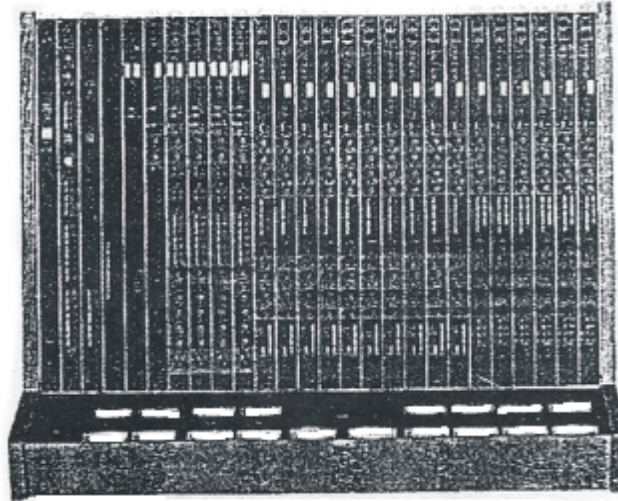

Figure K-10. Audio Console/Mixer
b. The audio-control console is the main center point for all audio signals in a television program. All sound sources, including microphones, tapes, records, compact discs, sound tracks from videotape, and remote audio feed from the field, could be designed to be inputs into the audio console. At the console, the various inputs are regulated, mixed, processed, and then output to the station or to a videotape and/or audio recorder. See Figure K-10.